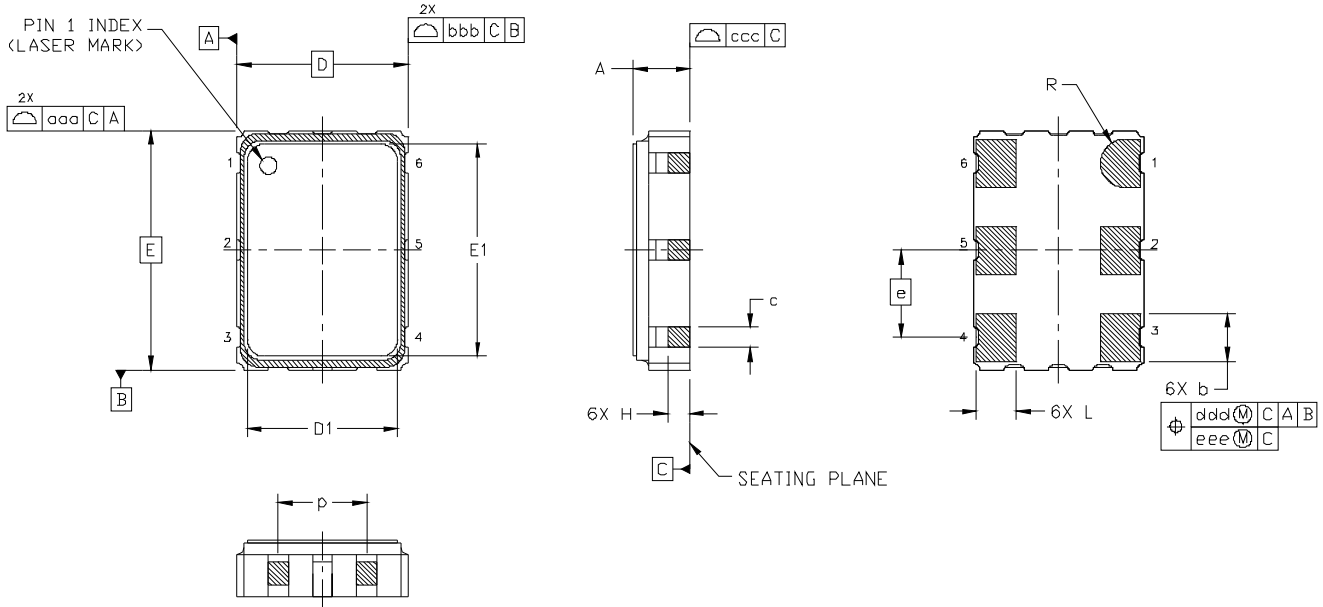

Figure 2. Si550 Outline Diagram
Figure 2 illustrates the package details for the Si550. Table 11 lists the values for the dimensions shown in the illustration.
- Added crystal impedance pin in Figure 2 on page 10 and Table 11 on page 10.